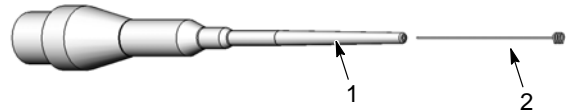

Figure 26 Replacing Electrode
- See Figure 26. Standard Length only: To replace the electrode (2), pull it out of the electrode holder (1).
- See Figure 26. If removed, install the electrode in the electrode holder, then thread the electrode holder into the resistor holder.